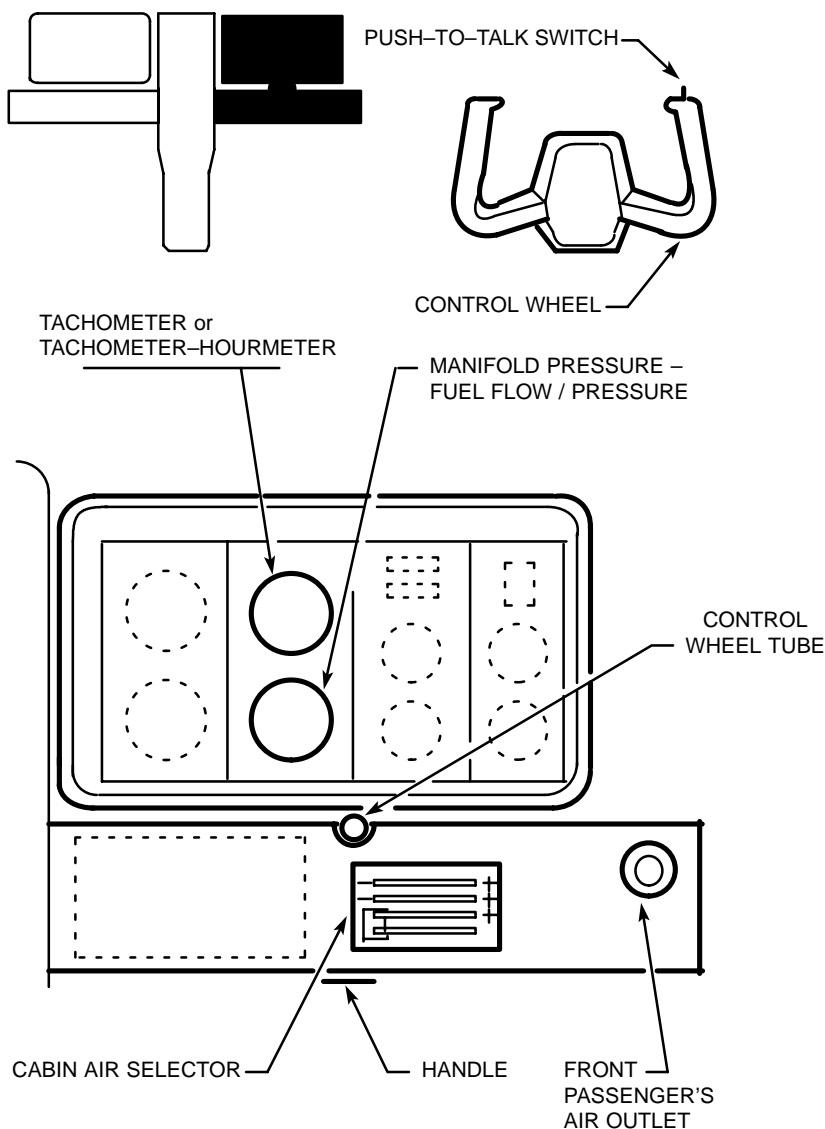

Figure 7.3 – EXAMPLE OF INSTRUMENT PANEL AND R.H. SUBPANEL
**The R.H. instrument panel** (see Figure 7.3) contains the tachometer or tachometer-hourmeter and the manifold pressure – fuel flow/pressure dual indicator and spare locations for additional equipment (2nd altimeter, VOR/LOC indicator, outside air temperature, cylinder head temperature, exhaust gas temperature...).
**The R.H. panel strip** (see Figure 7.3) contains a location for radio equipment or any other one, cabin air selector, R.H. air outlet.